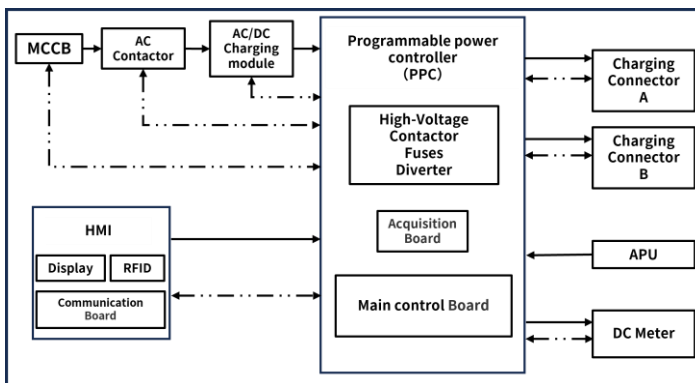

Fig. 4-2 Block diagram of SDC
- The block diagram of **SDC DC Fast** charging station shown as Fig. 4-2.